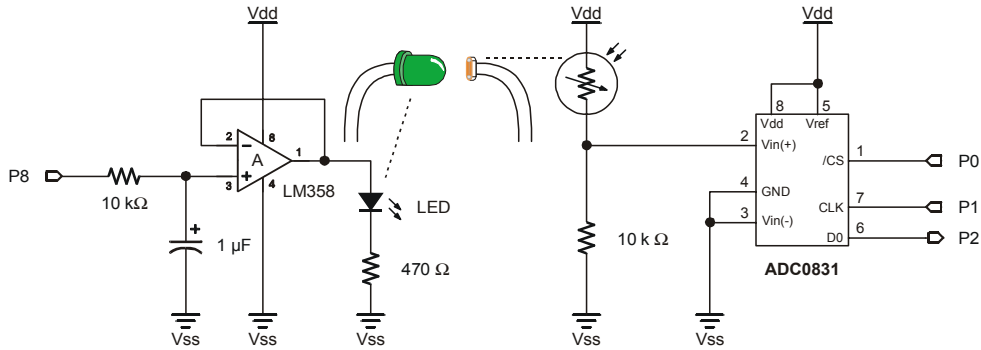

Figure 7-10: Transmitting an Optical Signal.
Next, add a photoresistor in series with a 10 kΩ resistor as shown in Figure 7-10. The positive lead of your BASIC Stamp DVM should be connected to the node where the photoresistor connects to the 10 kΩ resistor. This is a voltage divider output, and as the resistance of the photoresistor varies, so will the voltage seen at the output of the voltage divider. Also, point the top of the yellow LED directly at the face of the photoresistor as shown.
6. If the measured voltage in a voltage divider with a photoresistor as shown in Figure 7-10 is 2.3 volts, what is the value of the photoresistor?